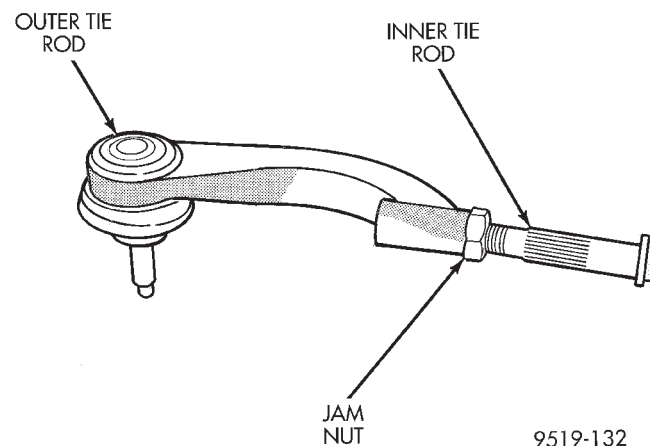

Fig. 31 Inner To Outer Tie Rod Jam Nut
(1) Loosen inner tie rod to outer tie rod jam nut (Fig. 31).
(5) Adjust the front Toe setting on the vehicle. Refer to the Toe Setting Procedure in Front Suspension Service Procedures in this group of the service manual. Refer to the Specifications Section at the end of this group for the desired front Toe specification.
(6) Tighten tie rod jam nut (Fig. 31) to 75 N·m (55 ft. lbs.) torque.
(7) Adjust the steering gear to inner tie rod boots at inner tie rod if they became twisted during Toe adjustment.